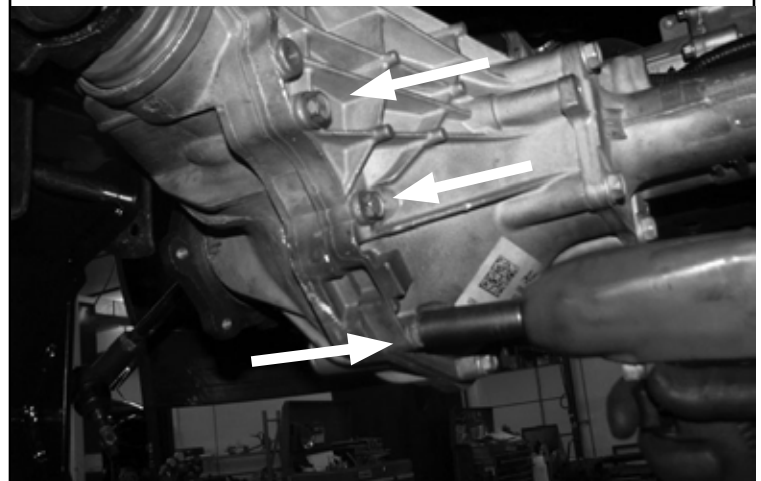

FIGURE 45 - STEP 29
29. Remove the 3 factory differential housing bolts and discard. **SEE FIGURE 45**